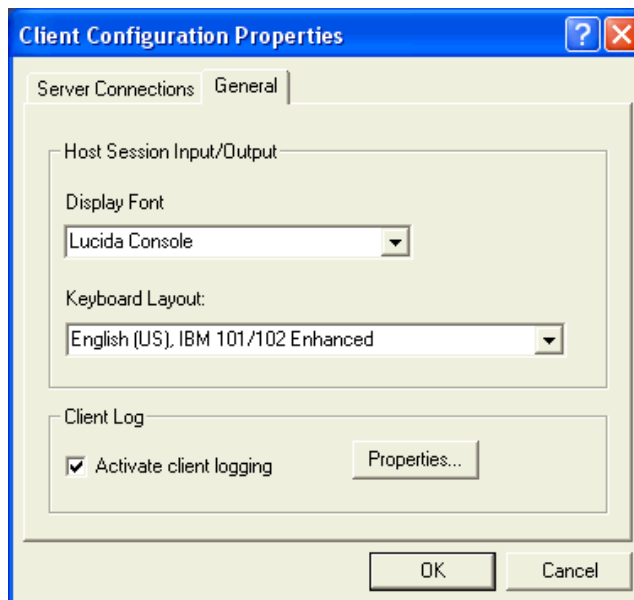

Figure F-9 Client configuration - General tab
6. On the Client Configuration Properties panel, select the **General** tab (Figure F-9). You may select a different display font and keyboard layout for all TN3270E client sessions that will be defined on this AF/REMOTE server connection. Complete the fields and click **OK**.